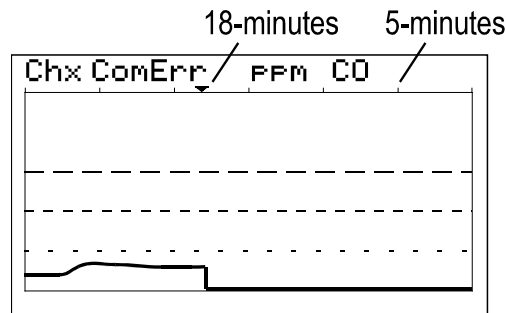

Figure 6.4
- **Communications Error** – Each channel’s 30-minute trend screens (Figure 6.4) are very useful for diagnosing wireless problems since it indicates amount of time since the most recent transmission was received. The down arrow on top of the trend screen resets to far right each time a transmission is received by that channel. When not in alarm, GDX-350 RFs transmit each 5-minutes so the arrow should never progress past the 5-minute interval. The GDA-400 activates the channel’s **FAULT** alarm and indicates **ComErr** if no transmission has been received in 18 consecutive minutes.